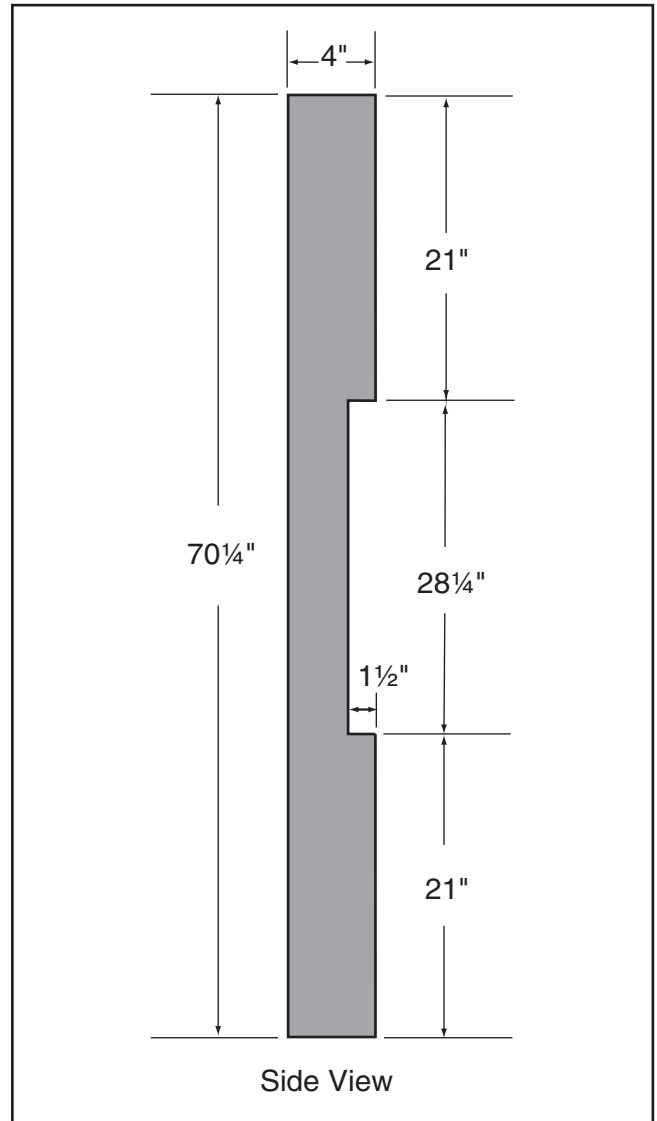

Figure 84. Dimensions of coplanarity gauge.
1. The body of the bandsaw does not allow you to place a regular straightedge across both wheels at the same time. We’ve found a simple way to overcome this situation. All you need is a 70¹/₄" x 2" x 4" board, a jointer and a circular saw. Run the 2" x 4" across a jointer on the side to be placed against the wheels, then cut a 1¹/₂" x 28¹/₄" notch out of the center. Refer to **Figure 84** for more details on how to make this gauge.